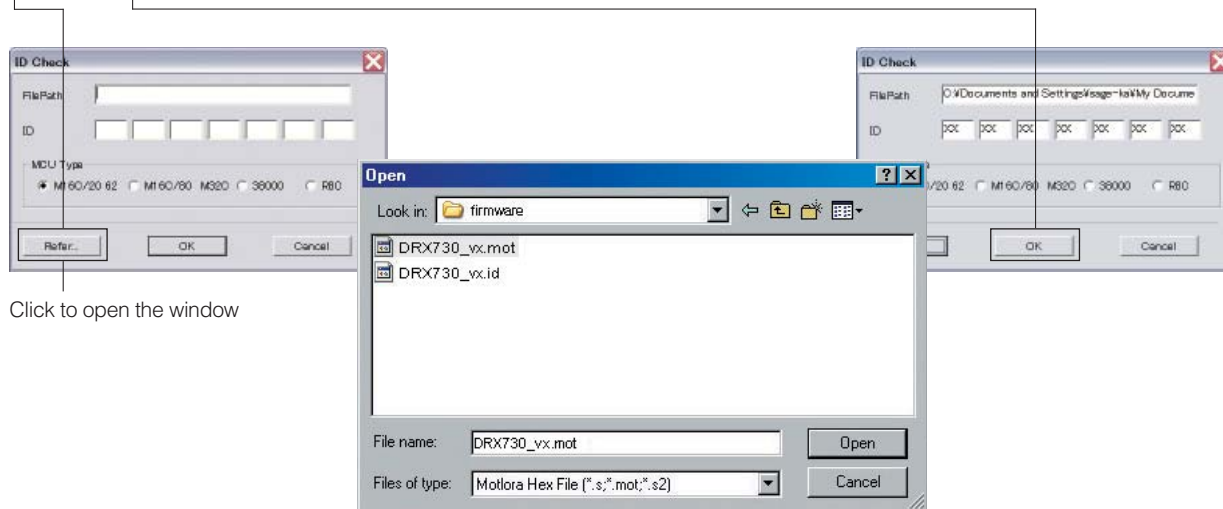

Fig. 3
5. Click [Refer...]. And select the firmware name. (Fig. 3)
* The ID code and MCU type are loaded automatically when the file is selected. (Fig. 3)
Click [OK]. (Fig. 3)